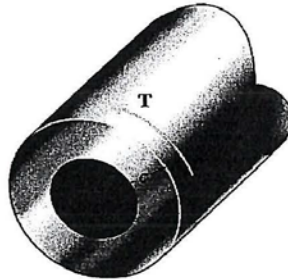

Figure 1
- (a) Determine the fraction of T that is resisted by the material contained within the outer region of the shaft, which has an inner radius of $c/2$ and outer radius c (Figure 1).